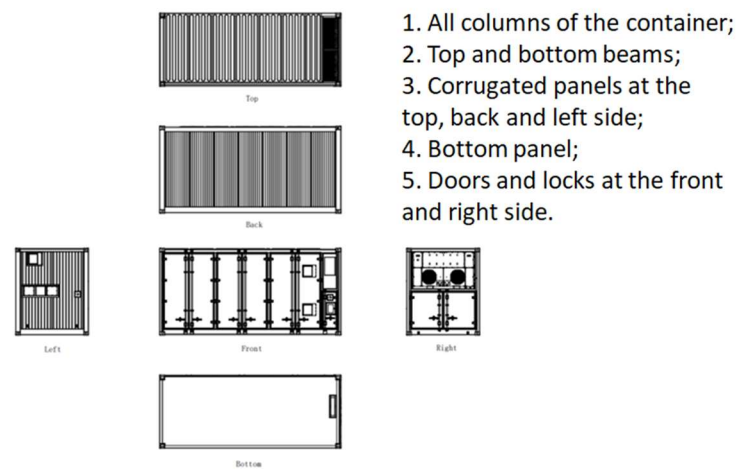
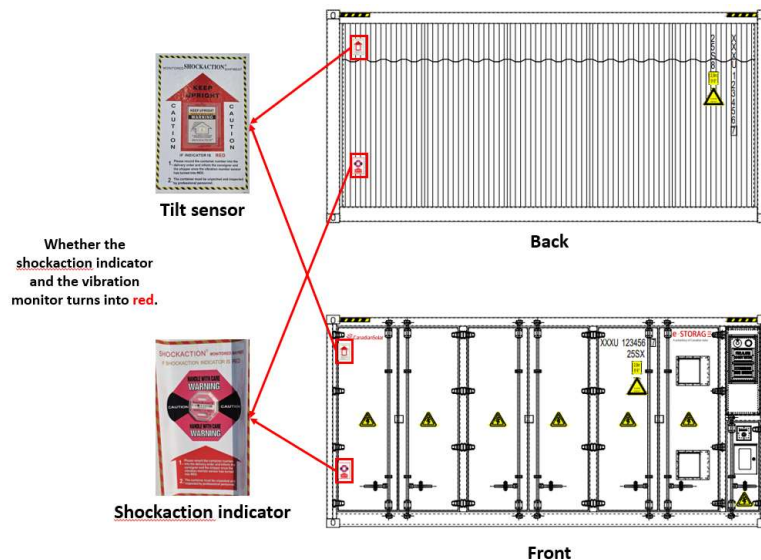

Figure 5: Structure check
Figure 6 Sticker check
1. When changing the transportation, it is necessary to check whether the structure of the part shown in Figure 5 is intact. Check whether the structure is deformed or damaged and the paint is peeling or rusted. Also, stickers shown in Figure 6 should be checked.